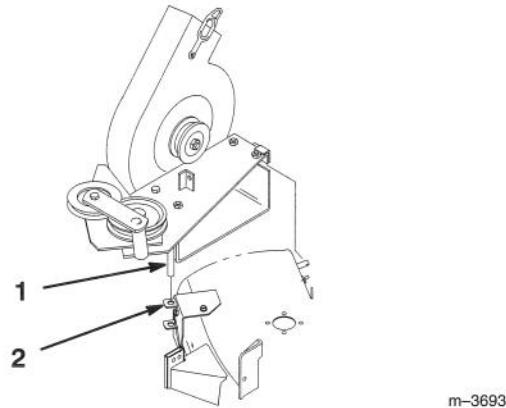

Figure 14
1. Install the blower by lowering the pivot pin into the pivot support (Fig. 14).